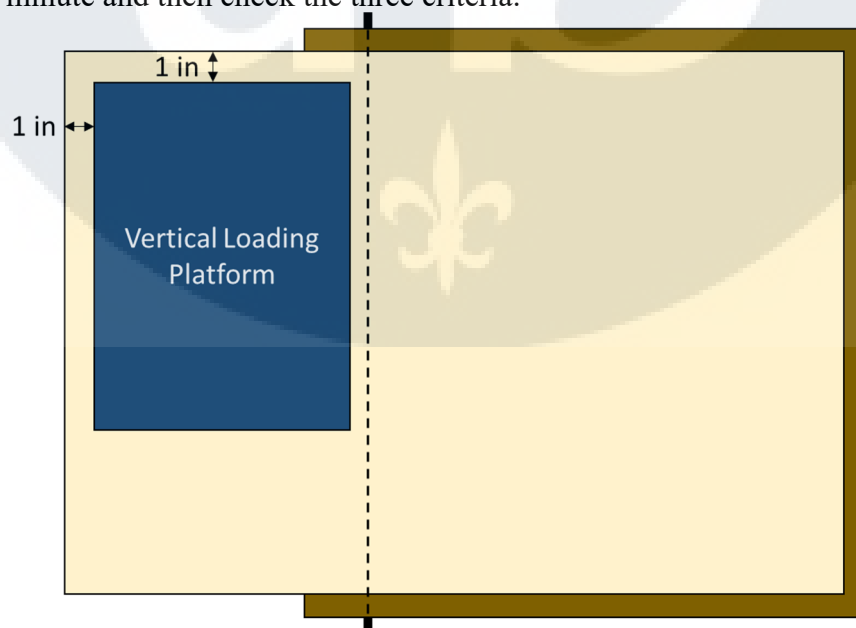

Figure 5: Top View of Load Placement (not to scale)
- d) **Loading Stage** – Details of the load placement are shown in Figure 5. This stage occurs in two steps: 1) removal of front and side panels and 2) placement of vertical surcharge. During each step, the wall will be checked for the following three criteria: 1) excessive deformation (any portion of the wall extending outside imaginary planes extending vertically from base of sandbox), 2) excessive soil leakage (more than 30 cm3 of sand passing out of the sandbox), and 3) catastrophic failure. The team will be penalized for excessive soil loss and excessive deformation, but will be disqualified for a catastrophic failure.
- i. When directed by judge, the team shall remove the front and side panels of the sandbox. After the panels are removed, the judge will wait one (1) minute and then check the three criteria.
- ii. If the wall does not fail catastrophically, the team will then place 50 lbs of sand in the vertical loading platform (see **Appendix A** for the platform details). The team will have one (1) minute to place the load. After the load is placed, the judge will wait one (1) minute and then check the three criteria.